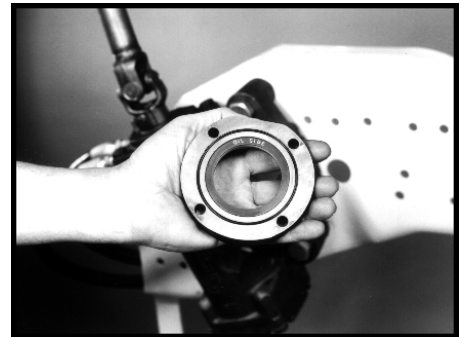

Figure 12
1.7 Install the new two-piece sector shaft seal (23), so that the words "oil side" are visible after seal is in place. SEE FIGURE 12.